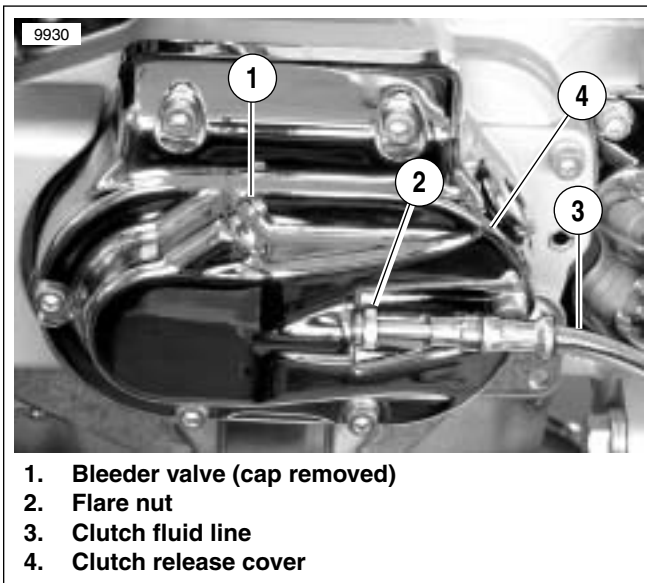

Figure 2-35. Clutch Release Cover
3. See Figure 2-35. Place a suitable container under clutch release cover (4).
4. Loosen flare nut (2) and allow clutch fluid to drain.
6. Drain clutch fluid line (3).